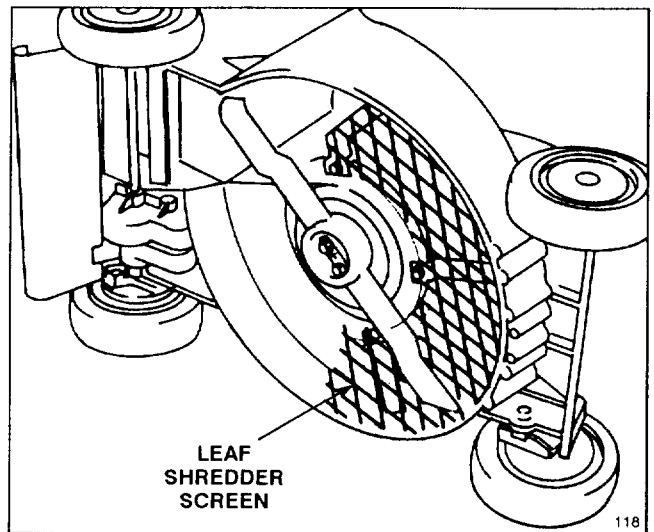

Figure 37
4. **Leaf Shredder Kit, Model No. 59180**—Installs on underside of mower in minutes without requiring removal of blade. Shreds leaves into small pieces for clean vacuuming into grass bag and convenient disposal (Fig. 37).